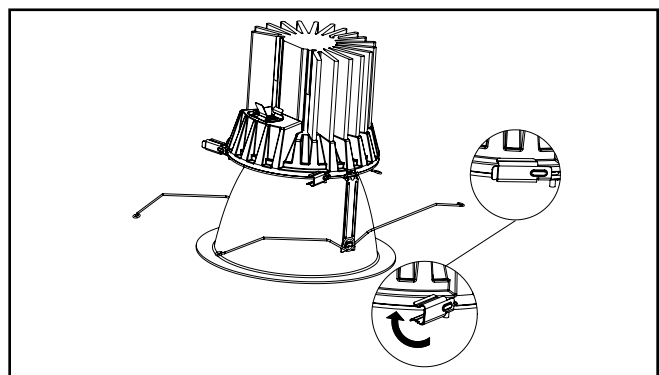

Figure 6
6. Rotate side clips (3) into place to securely attach trim assembly to LED engine (Figure 6.).